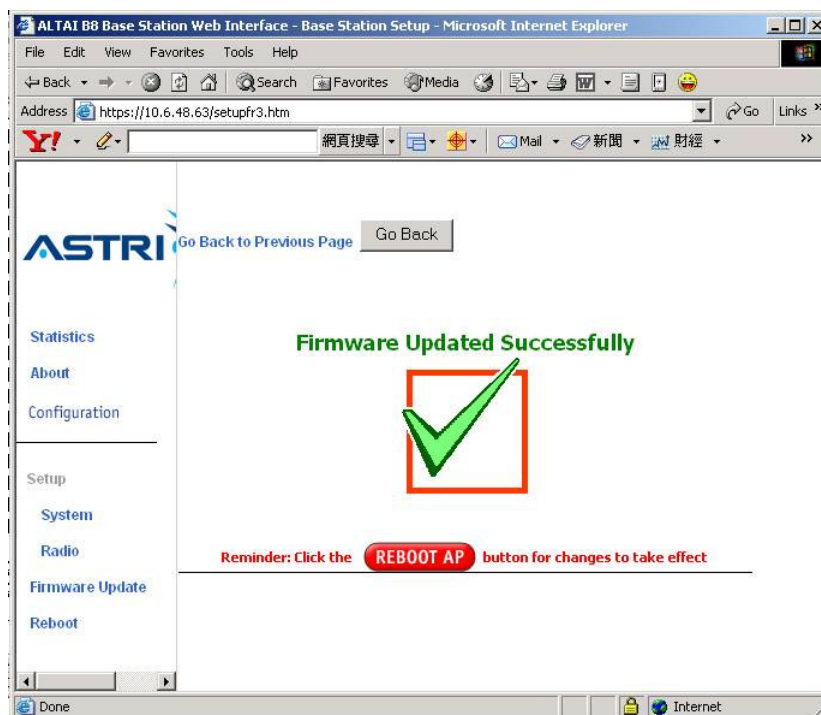

Figure 29. Successful Firmware Update – Web-admin
3. If the firmware upgrade is successful, a window will appear as Figure 29. Click the icon **REBOOT AP** to reboot the A8.